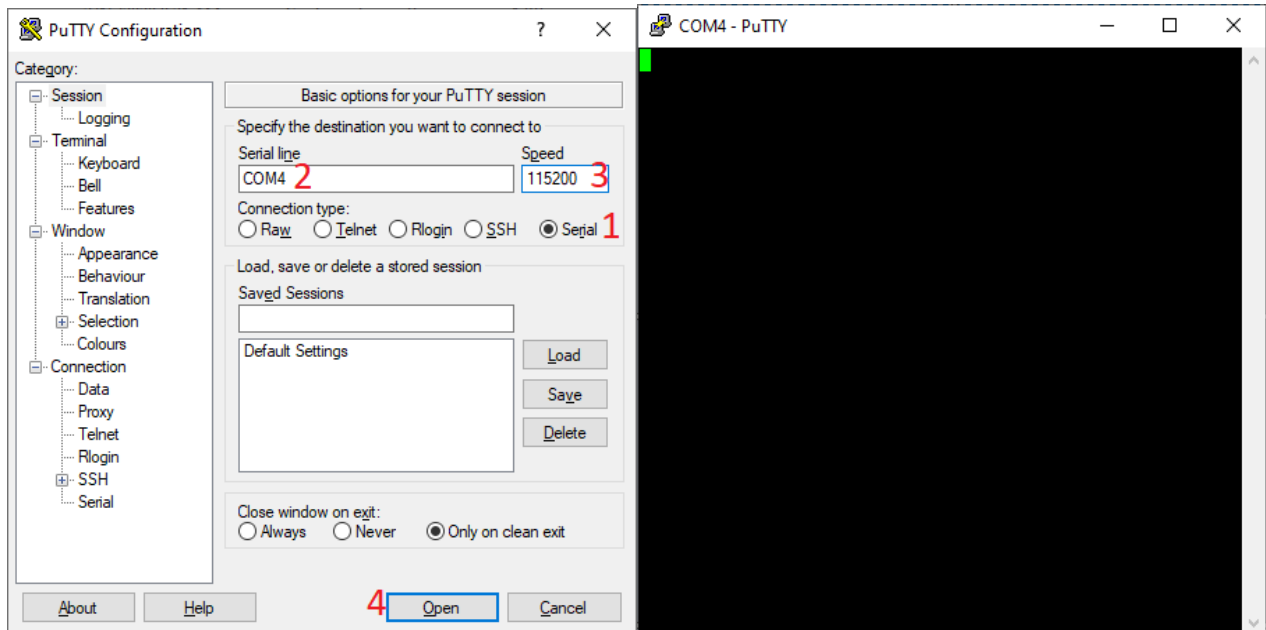

Figure 15 - Debug Interface Using PuTTY
- Figure 15 - Debug Interface Using PuTTY
The Atmosic EVK provides the log output through debug interface (COM port). The developer could use utility to capture (i.e. PuTTY, Tera Term ...etc.) log. This section describes how to capture logs through PuTTY. When open the PuTTY tool, click the **“Serial”** radio button then input the COM port information in **“Serial line”** item (i.e. COM4), and input **115200** in **“Speed”** item. Subsequently, click the **“Open”** button to open the COM port and wait for debug message input. See Figure 15.